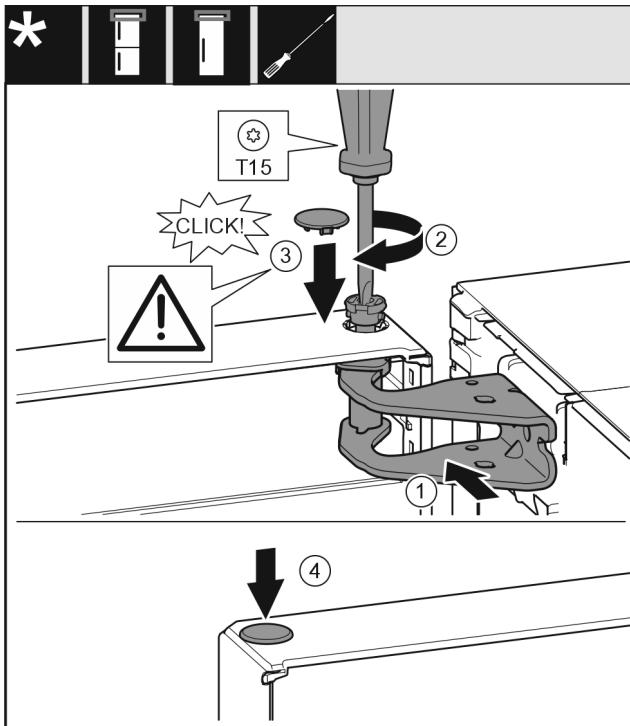

Fig. 22
- ▶ Align the top of the door with opening in the bearing bracket. Fig. 22 (1)
- ▶ Insert the pin Fig. 22 (2) and tighten it with the screwdriver.
- ▶ Mount the safety cover Fig. 22 (3) to protect the door: Insert the safety cover and check whether it is positioned on the door. If so, insert the pin completely.
- ▶ Insert the plug. Fig. 22 (4)